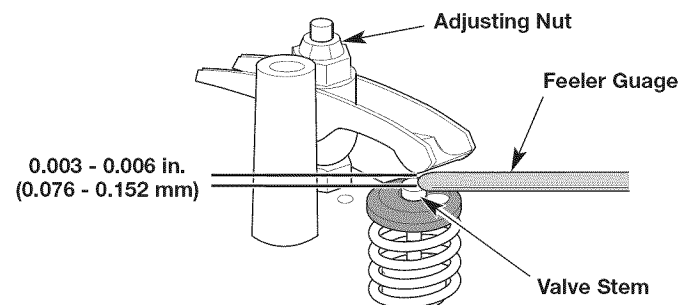

Fig. 27
8. Use a feeler gauge to measure the clearance between one of the valve stems and its corresponding rocker arm (Fig. 27). Repeat this process for the other valve stem and rocker arm. The recommended clearance is **0.003 – 0.006 in. (0.076 – 0.152 mm)**. Use a standard automotive **0.005 in. (0.127 mm)** feeler gauge. The feeler gauge should slide between the rocker arm and valve stem with a slight amount of resistance, without binding (Fig. 27).
- a. Turn the adjusting nut with a 5/16 inch (8 mm) wrench or nut driver (Fig. 27).